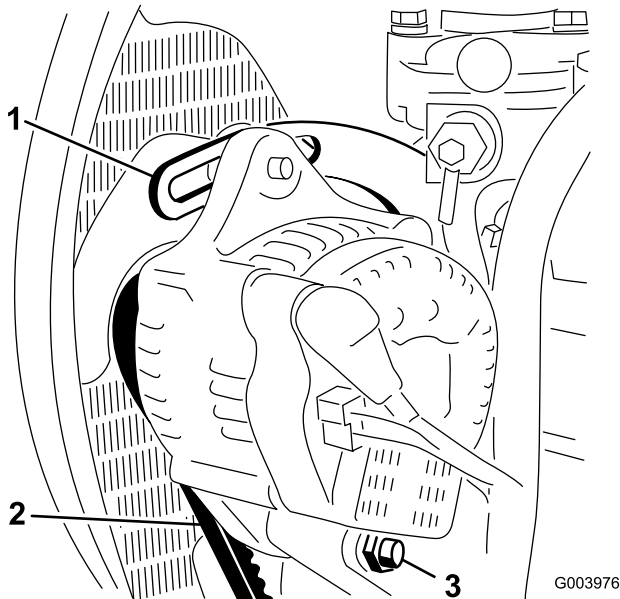

Figure 61
2. Check the tension of the alternator belt by depressing it, with moderate thumb pressure, midway between the alternator and the engine pulley (Figure 61).
3. Loosen the bolt securing the brace to the engine (Figure 61), the bolt securing the alternator to the brace and the pivot bolt.